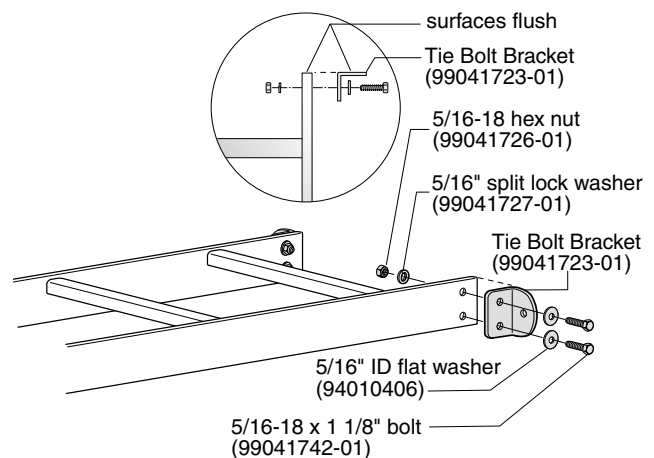

Figure 2
4. If the end of the Cable Runway Ladder to be supported by the Perpendicular Cable Runway Wall Support Kit has been cut, use the Tie Bolt brackets as a template for marking the necessary hole locations. The side of the bracket with the single hole should be placed flush with the end of the Cable Runway Ladder and the hole diameter required in the Ladder is 0.332". (Figure 2)
5. Insert the 5/16-18x1 1/8" bolts through the 5/16" ID flat washers and then through the two holes in the Tie Bolt bracket and Cable Runway Ladder. Fasten each bolt with a 5/16" split lock washer and 5/16-18 hex nut. Repeat on the other Cable Runway Ladder end. (Figure 2)
6. Insert the 3/8-16 spring nuts into the channel and position the nuts 13 7/8" apart. (Figure 2)